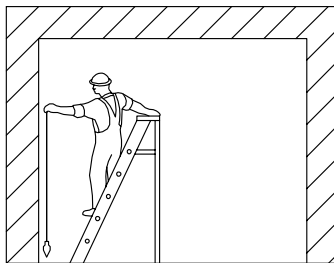

Figure 3. Jamb Mounting Surface Must Be Vertical
- 2.3. Use a plumb bob to check that the rough opening where the jambs will be mounted is vertical (**Figure 3**).